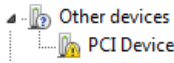
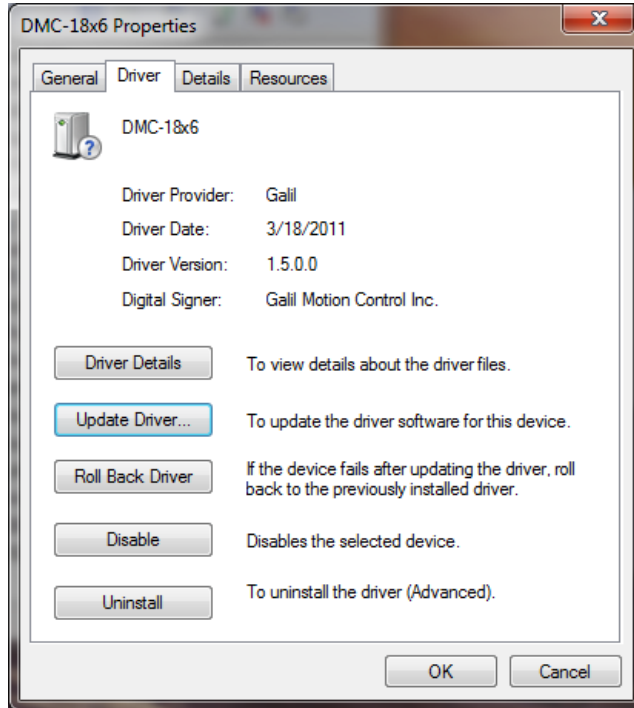

Figure 8: Driver not recognized or not installed.
Figure 10: Properties
Find your Galil Controller or PCI device in the Device Manager. Figure 8 and 9 show how scenario (1) and (2) will present themselves, respectively. Figure 10 shows a properly installed driver.